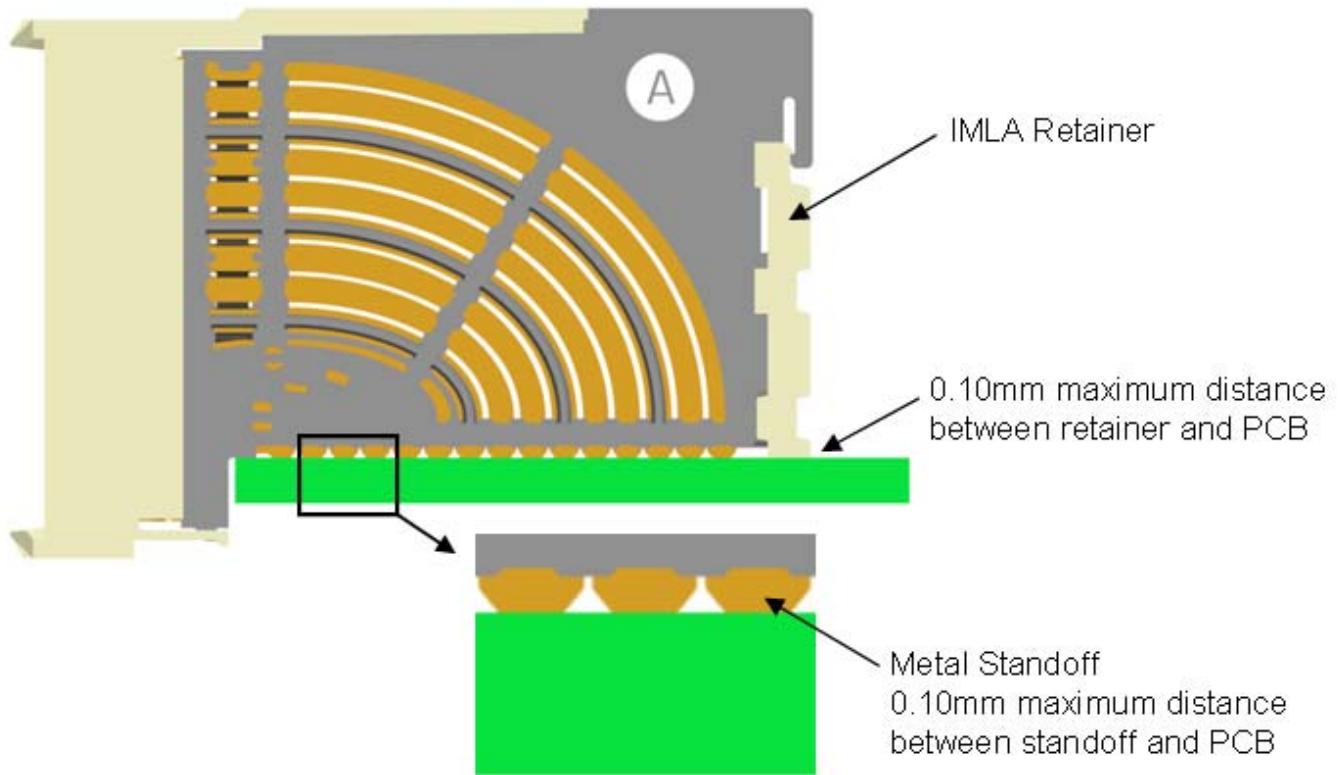

Figure 9: Proper Seating after Board Application
- For right angle products, visually assure that the metal standoffs on the bottom of each assembly are seated within 0.10 mm of flush to the PCB. Inspect the IMLA retainer for a maximum clearance to the board of 0.10mm (see Figure 9). A larger gap beneath the standoffs or retainer may indicate that the connector is not seated fully or is not seated parallel to the board. This can cause misalignment when the daughter card is mated to the backplane.